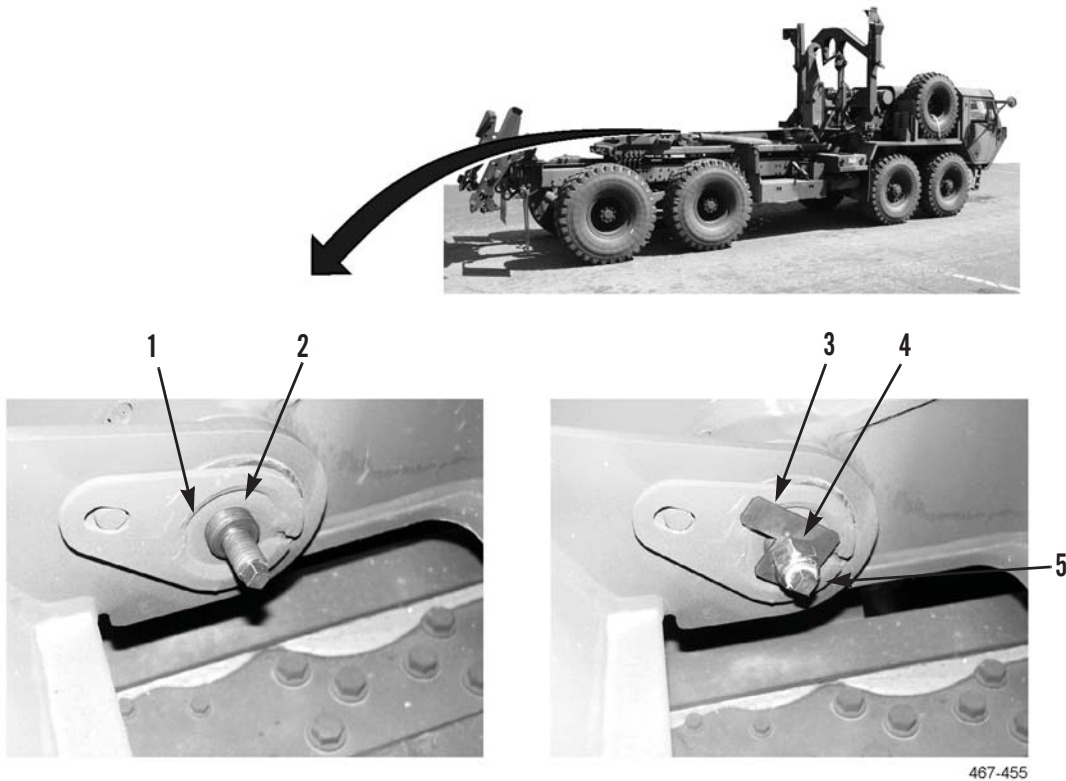

Figure 45. Middle Frame Sensor Plate Installation.
Position sensor plate as shown in Figure 45.
2. Install sensor plate (Figure 45, Item 3) and locknut (Figure 45, Item 4) on screw (Figure 45, Item 2).